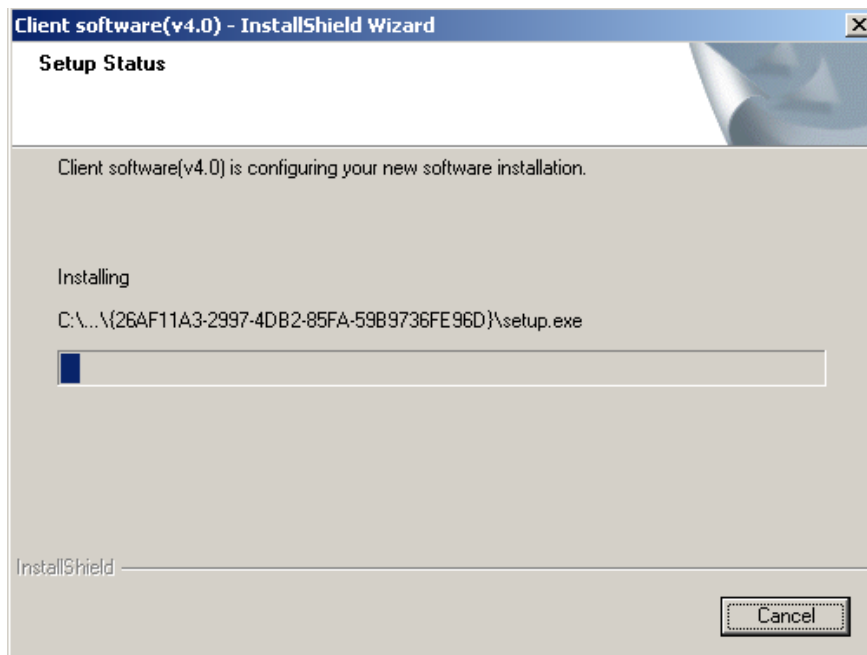

Fig2.4.6 Install Process
Step5: Click “Install” to start installation shown as Fig2.4.6.